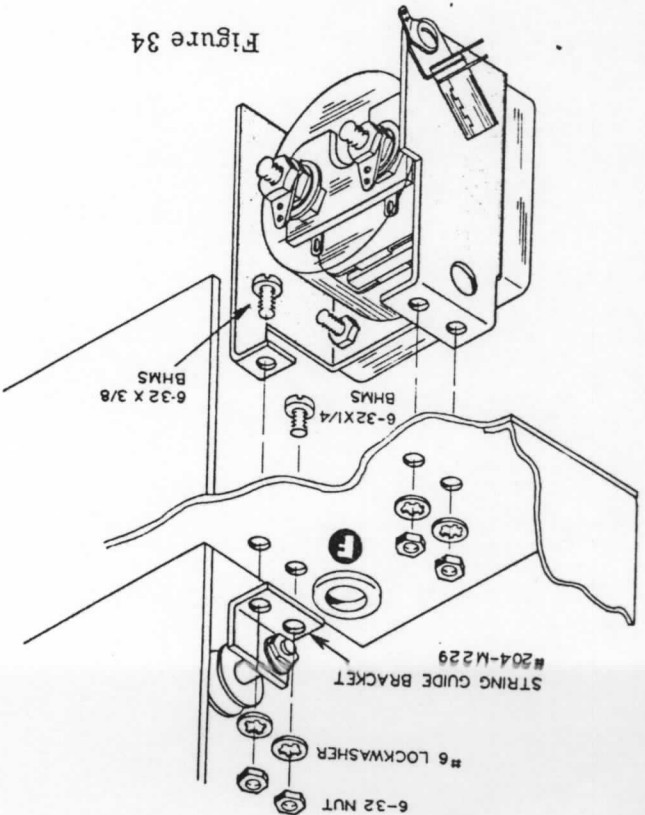

Figure 34
- () Position this assembly on the underside of the main chassis top plate, as shown in Figure 34, and secure with a 6-32 x 1/4" BHMS through the front hole only, keeping the rear hole aligned, completing with a #6 lockwasher and a 6-32 nut from the chassis underside.
- () Now mount the meter mounting bracket, in which the meter has previously been installed, on the top side of the chassis and secure with two 6-32 x 1/4" BHMS, #6 lockwashers and 6-32 nuts. Use a 6-32 x 3/8" BHMS on the mounting screw which passes through and secures the string guide pulley bracket just installed. Refer to Figure 34.